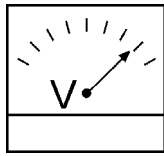

**Figure 37. Frequency Meter**
3. The generator's frequency meter (Figure 37) should be displaying the 60 cycle output frequency in **HERTZ**.